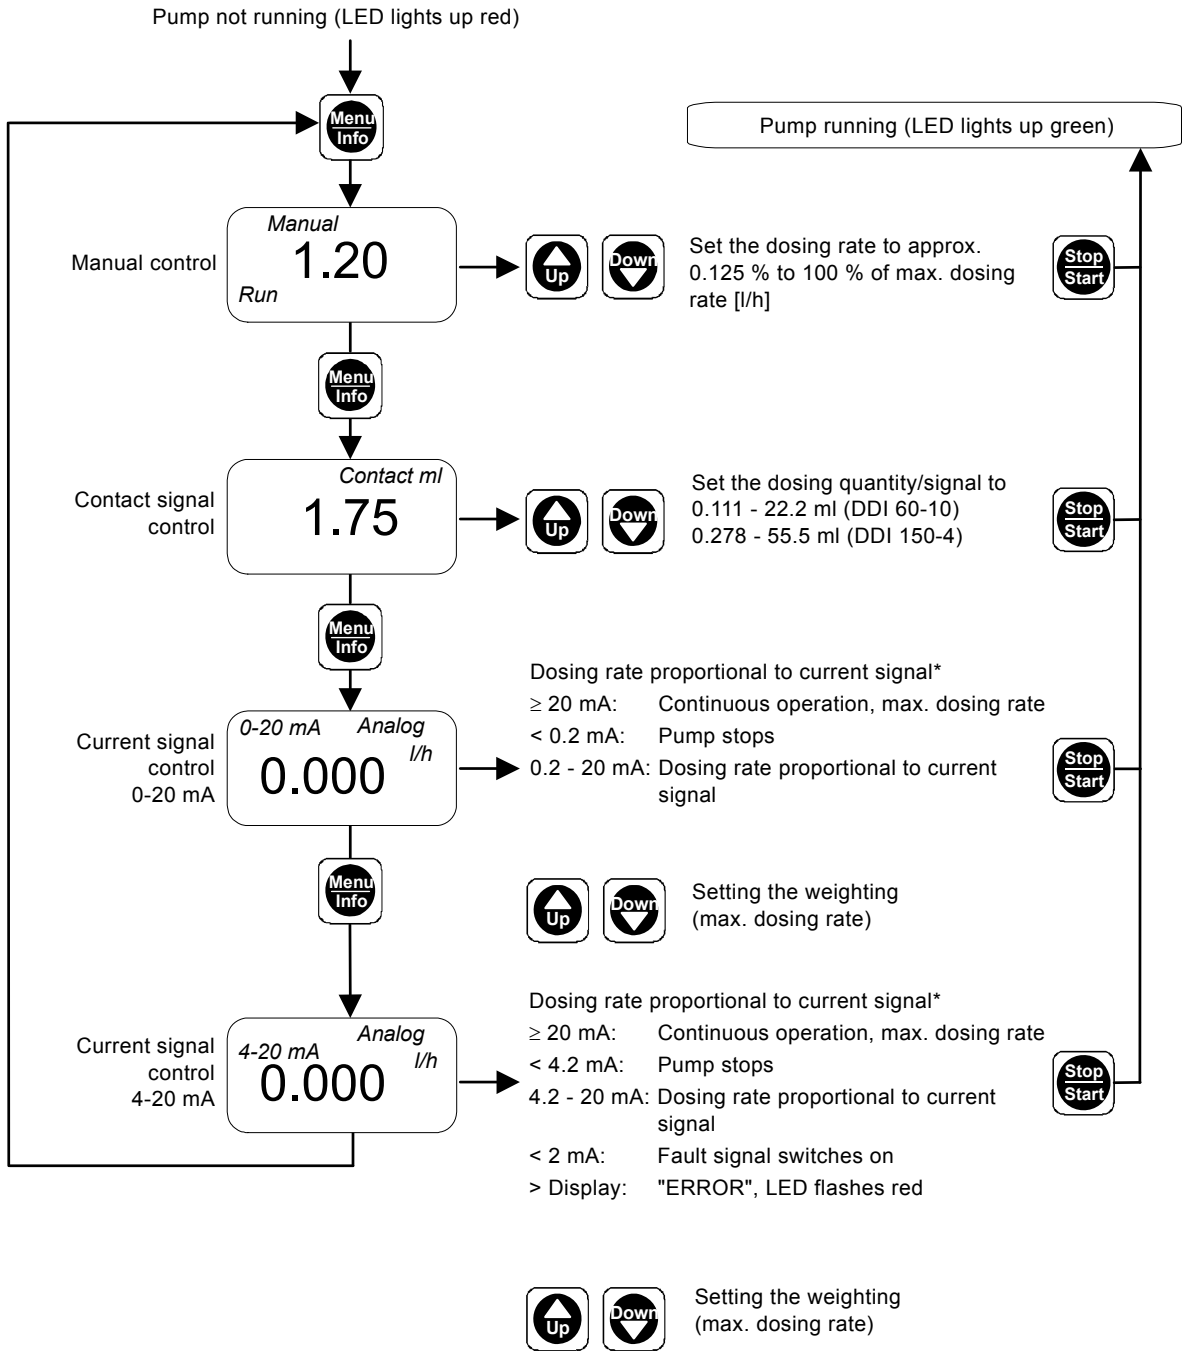

Fig. 24 First function level
- Use the "Up" and "Down" buttons to modify the settings in the relevant menu as shown in fig. 24.